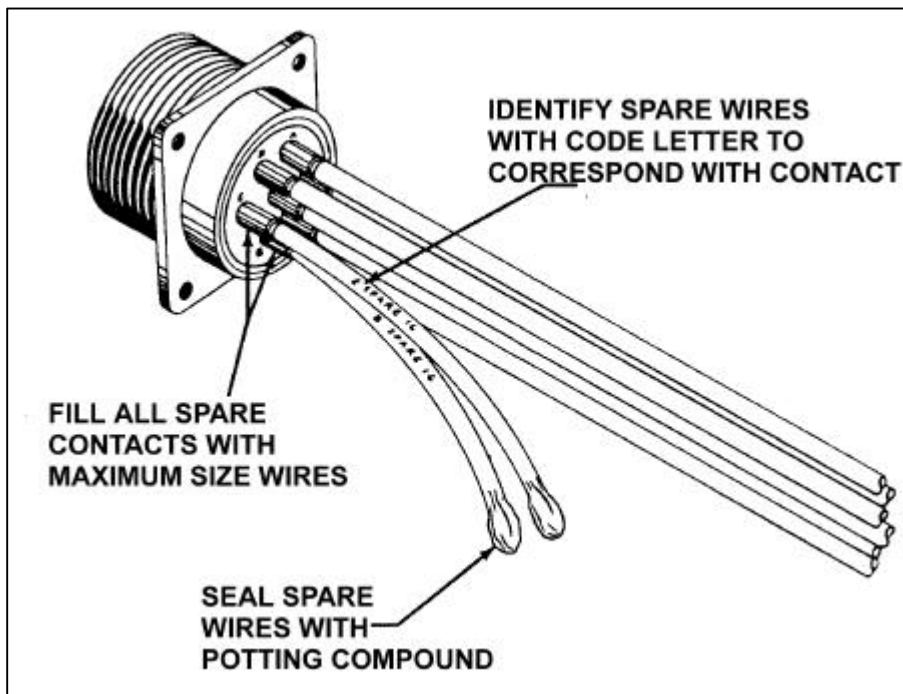

FIGURE 11-38. Spare wires for potting connector.
b. Connect wires to all contacts of the connector prior to the application of the potting compound. Wires that are not to be used should be long enough to permit splicing at a later date. Unused wires should be as shown in figure 11-38 and the cut ends capped with heat-shrinkable caps or crimped insulated end caps such as the MS 25274 prior to securing to